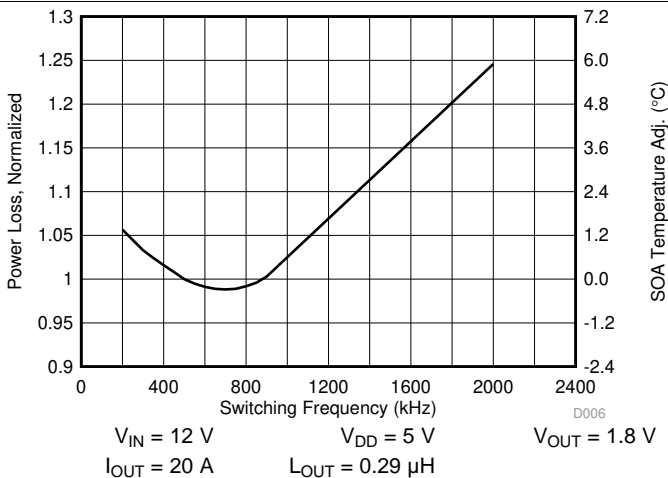

Figure 6. Normalized Power Loss vs Frequency
- Normalized power loss for switching frequency \approx 0.99 (Figure 6)
- SOA adjustment for switching frequency \approx -0.2°C (Figure 6)